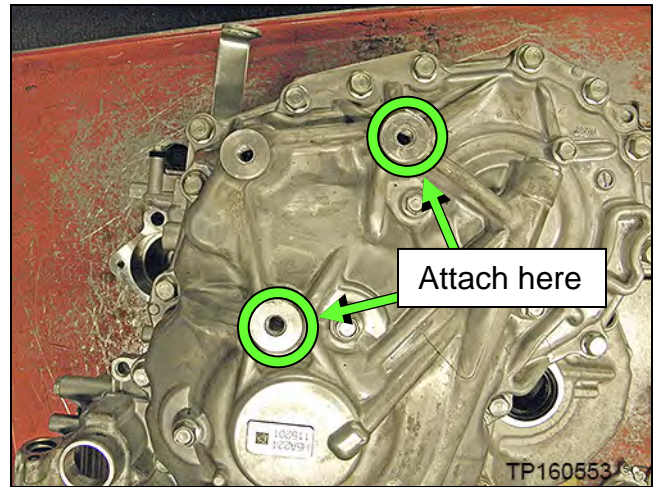
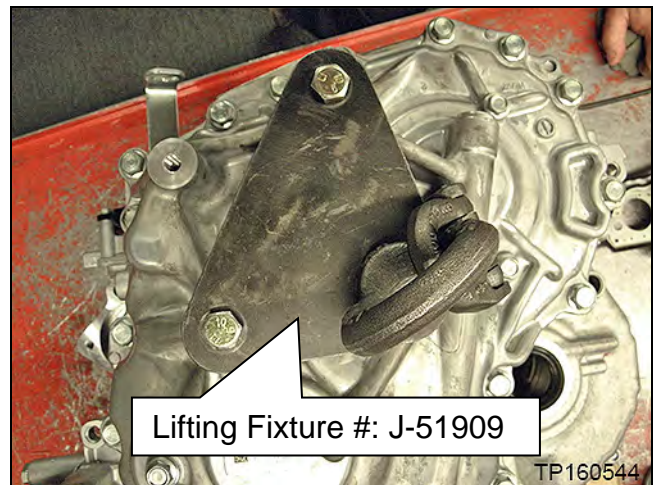
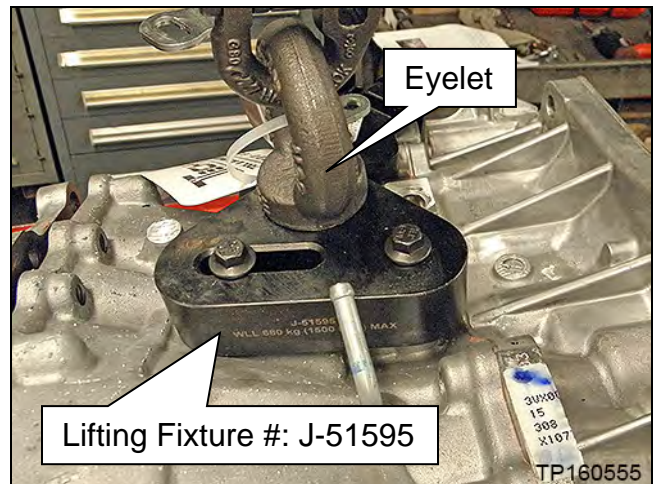

Figure 6F
Figure 7F
Figure 8F
5. Attach Lifting Fixture J-51909 (Figure 7F) with eyelet from J-51595 (Figure 8F) to the side cover at point shown in Figure 6F.
- Figure 7F shown with Lifting Fixture attached to side cover (Tool #: J-51909).
- Figure 8F shows a Lifting Fixture that can be used to turn the CVT from one side to the other. This Lifting Fixture attaches to the top of the CVT (Tool #: J-51595).